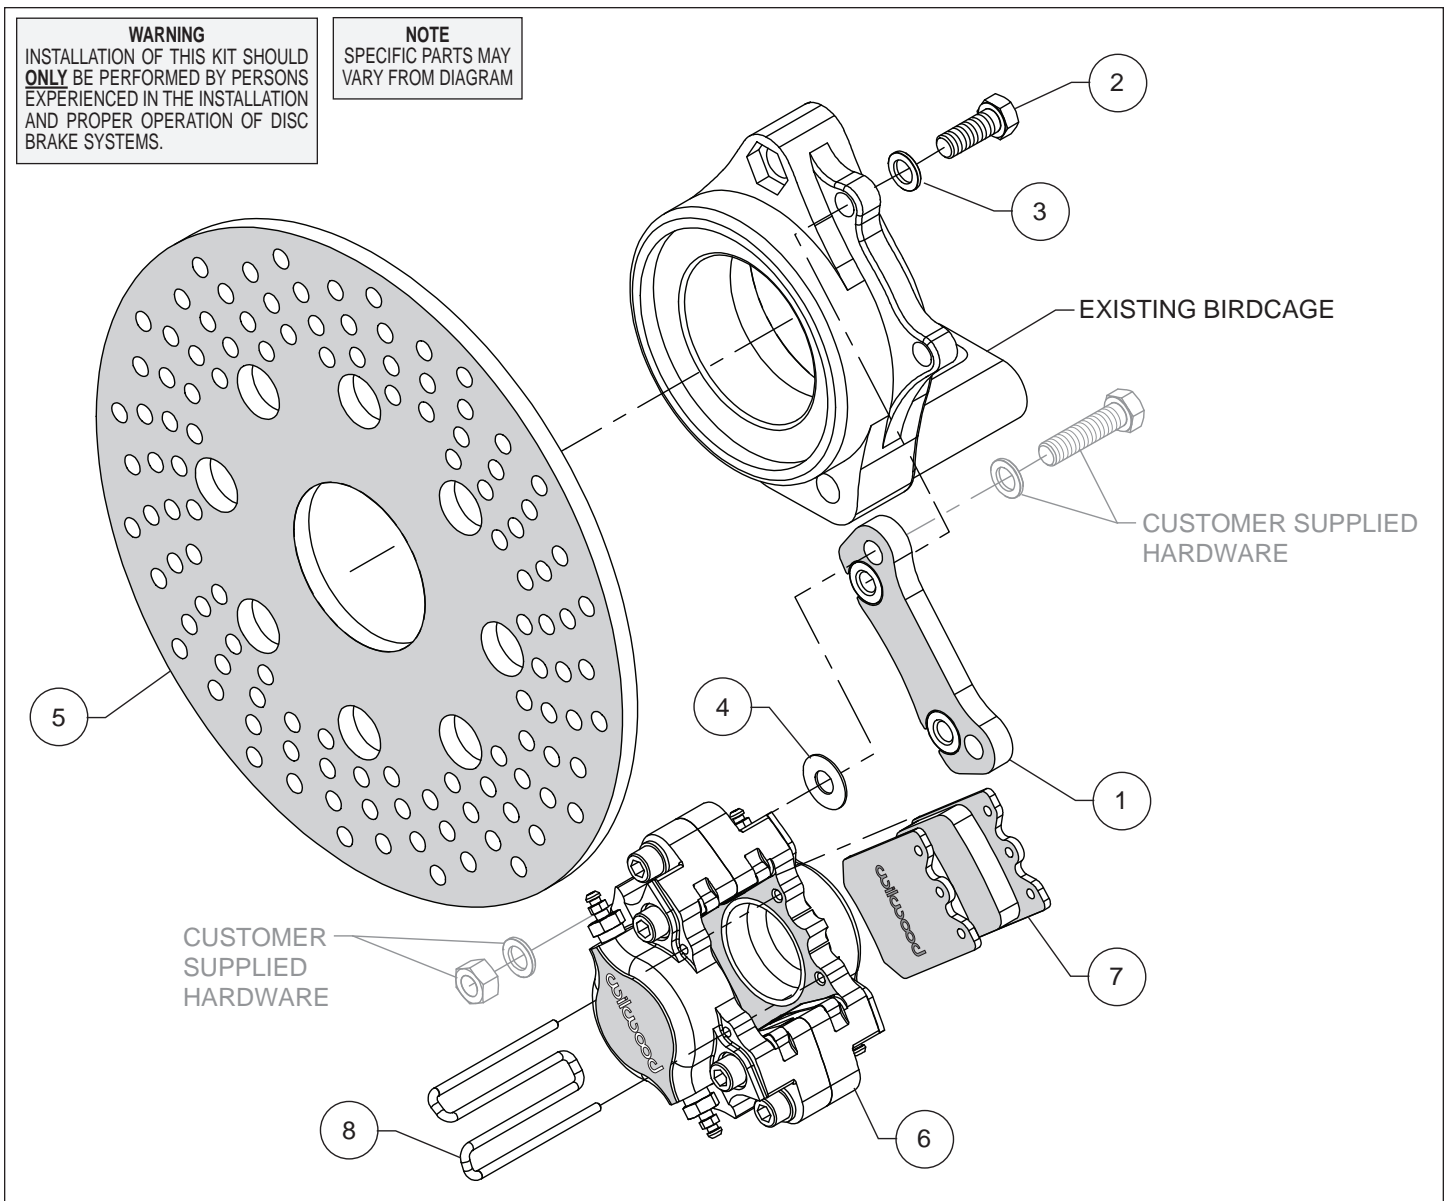

Figure 1. Typical Installation Configuration
Assembly Instructions (numbers in parenthesis refer to the parts list and Figure 1 on the preceding pages): **CAUTION:** All mounting bolts must fully engage clinch nuts. Be sure to check that all bolts are either flush or protruding through flanged side of clinch nut.
• Orient the caliper mount bracket (1) as shown in Figure 1, and install using bolts (2), and washers (3). Ensure that the flanged heads of the clinch nuts in the bracket are facing outboard. Temporarily tighten the mounting bolts. **NOTE:** The bracket must fit square against the mount bosses on the birdcage. Inspect for interference from machining ridges, burrs, etc. Remove bolts one at a time, apply red Loctite® 271 to the threads and torque to 40 ft-lb.
• Slide the rotor (5) onto the axle and secure using customer supplied hardware.
• Mount the caliper onto the bracket (1) using customer supplied hardware, Figure 1. Initially place one .035" thick shim (4) on each bolt between the caliper and bracket as shown in Figure 1. Temporarily tighten the bolts/nuts and view the rotor through the top opening of the caliper. The rotor should be centered in the caliper. If not, adjust by adding or subtracting shims (4) between the bracket and the caliper mount lugs. Once the caliper alignment is correct, torque customer supplied mounting hardware as required. Use of red Loctite® 271 is recommended.
• Remove the pad clip retainer (8) from the caliper (6). Slide the brake pads (7) into place. They should install easily without interference. Reinstall the pad clip retainer.